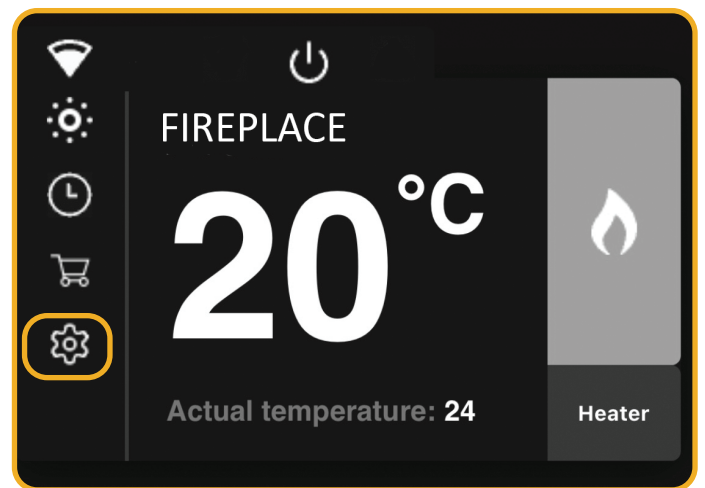

Figure 12.2 | Press Settings
- When the fire finished updating selected the settings on the left hand side. See Figure 12.2.